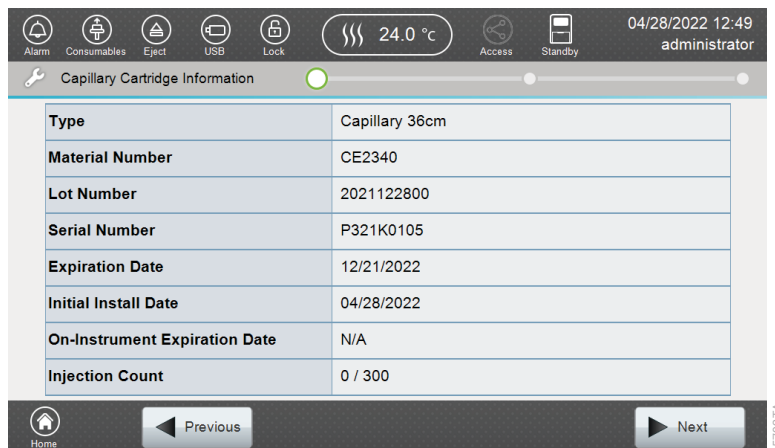

Figure 32. 'Capillary Cartridge Information' screen.
- Using the Barcode Scanner, read the barcode label on the Spectrum Compact Capillary Cartridge. Information about the Spectrum Compact Capillary Cartridge being installed is displayed on the 'Capillary Cartridge Information' screen (Figure 32).